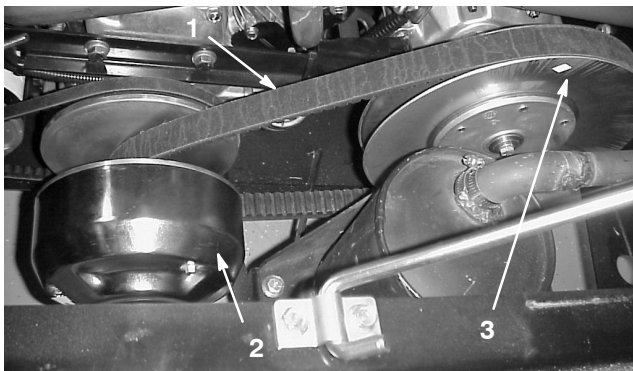

Figure 36
3. Rotate and inspect the belt (Fig. 36) for excessive wear or damage. Replace the belt if necessary.
1. Rotate and route the belt over the secondary clutch (Fig. 36).
2. Remove the belt from the primary clutch (Fig. 36).